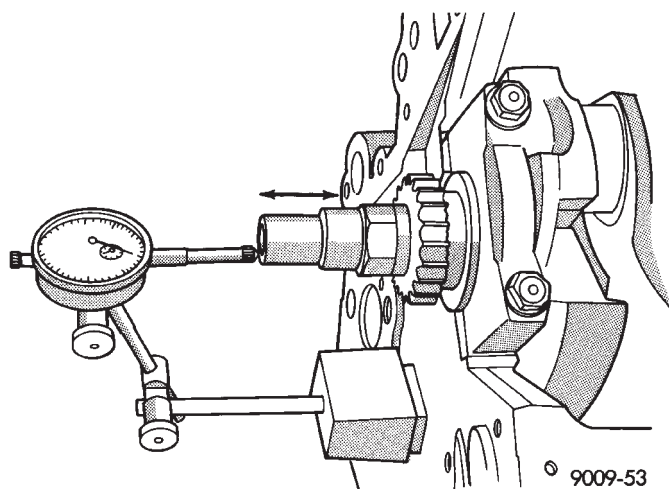

Fig. 4 Checking Crankshaft End Play
- (1) Mount a dial indicator to front of engine, locating probe on nose of crankshaft (Fig. 4).
- (2) Move crankshaft all the way to the rear of its travel.
- (3) Zero the dial indicator.